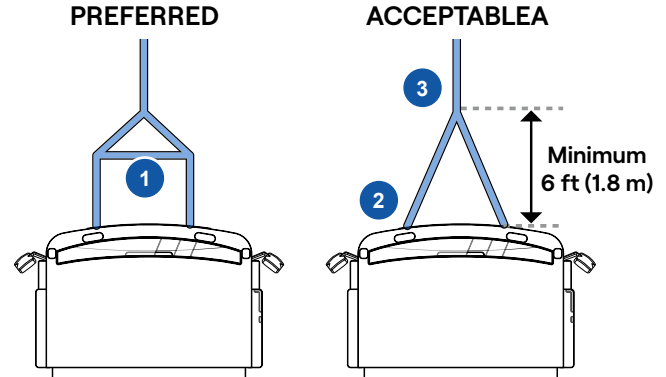

Figure 24 - Recovery options
- Use double chains or ropes to distribute the load evenly between both hitches (see either recovery option in **Figure 24**).
- Use a spreader or stabilizer bar to distribute the load between the two hooks (**Figure 24 no. 1**), or
- If there is no spreader bar, hang the main drag chain or cable at least 6 feet from the vehicle (**Figure 24 nos. 2 and 3**).